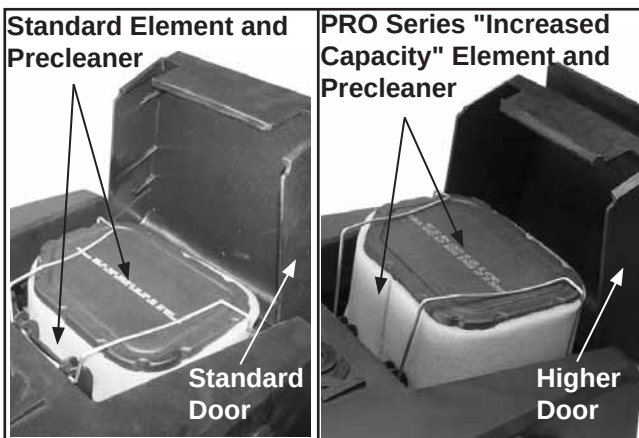

Figure 4-1. Air Cleaner Element Location.
Air cleaner systems used on these engines will be either the standard size or PRO Series increased capacity (slightly taller) design. Each system uses a replaceable, high-density paper air cleaner element. Some are also equipped with an oiled-foam precleaner, which surrounds the paper element. See Figures 4-1 and 4-2.
To service the precleaner, see Figures 4-1 and 4-2, and perform the following steps:
Clean the paper element every **50 hours**, or replace if necessary. Replace the paper element **annually or every 100 hours** of operation (more often under extremely dusty or dirty conditions). See Figure 4-1, and follow these steps:
1. Open the door on the blower housing to access the air cleaner element. See Figures 4-1 and 4-2.